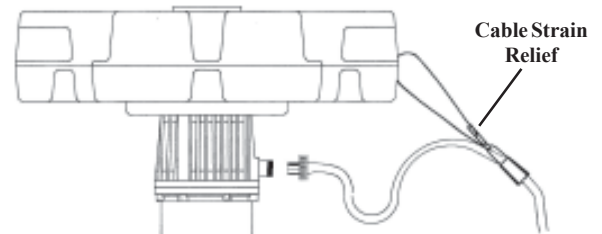

Figure 3
**D. Install the cable strain relief device.** Pass the wire hoop through one of the holes in the float and around the aerator power cable. Reattach wire hoop to strain relief -- see Figure 3. The splice must be on the aerator side of the cable strain relief.